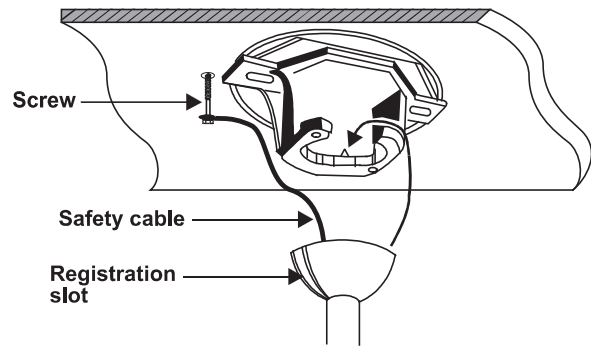

Figure 8
12. An additional safety support is provided to prevent the fan from falling. Secure the safety cable to the ceiling joist with screw and washer. (Fig. 8)